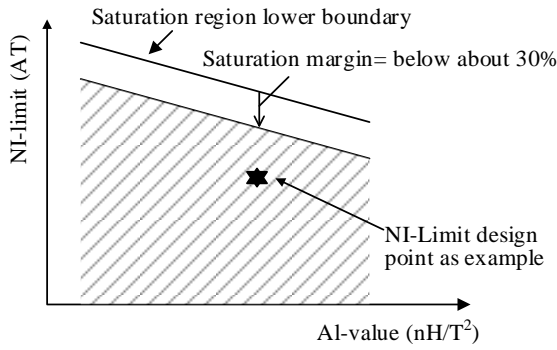

Figure 9-2. Example of NI-limit vs. AL-value Characteristics
In transformer design, AL-value and  $N_P$  must be set in a way that the ferrite core does not saturate. Here, use ampere turn value (AT), the result of  $I_{DP} \times N_P$  and the graph of NI-Limit (AT) versus AL-value (Figure 9-2 is an example of it). NI-Limit is the limit that the ampere turn value should not exceed; otherwise the core saturates.
When choosing a ferrite core to match the relationship of NI-Limit (AT) versus AL-value, it is recommended to set the calculated NI-Limit value below about 30% from the NI-Limit curve of ferrite core data, as shown in the hatched area containing the design point in Figure 9-2, to provide a design margin in consideration of temperature effects and other variations.